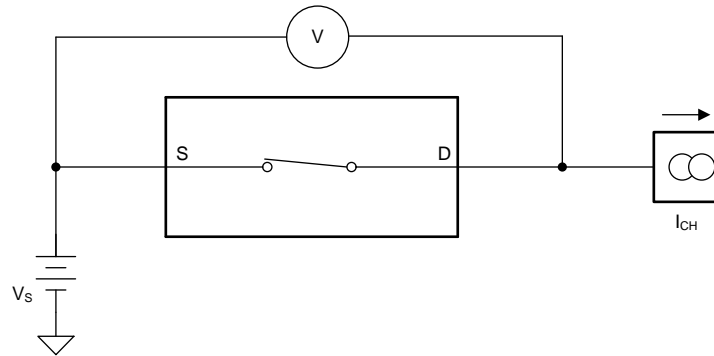

Figure 26. On-Resistance Measurement Setup
(1) X denotes *don't care*.
The on-resistance of the MUX50x is the ohmic resistance across the source (Sx, SxA, or SxB) and drain (D, DA, or DB) pins of the device. The on-resistance varies with input voltage and supply voltage. The symbol R_{ON} is used to denote on-resistance. The measurement setup used to measure R_{ON} is shown in Figure 26. Voltage (V) and current (I_{CH}) are measured using this setup, and R_{ON} is computed as shown in Equation 1.